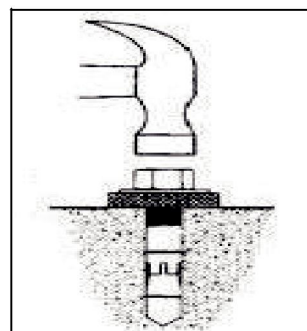

Fig. 17
- Fix anchor bolts into the holes with a light hammer (without inserting the central expansion screws of the anchor bolts, which shall be fixed after the leveling is completed), as shown in Fig. 17.